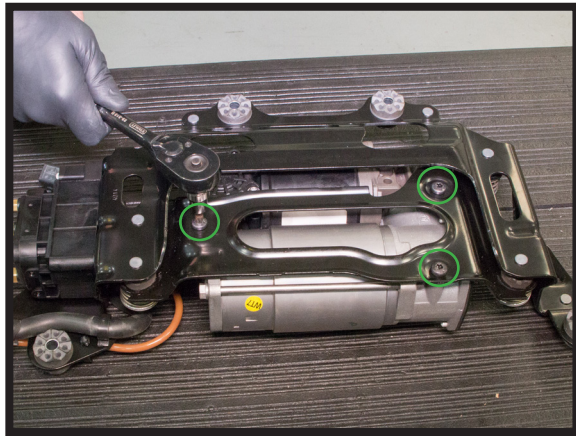

FIGURE 12
2. REMOVE THE THREE (3) TORX SCREWS THAT SECURE THE MOUNTING BRACKET TO THE COMPRESSOR. (FIGURES 12, 13)